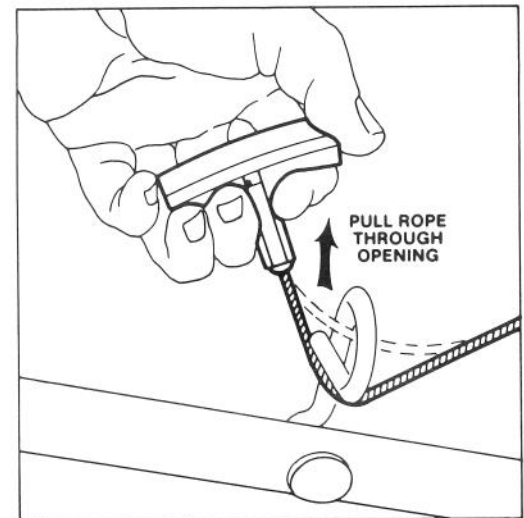
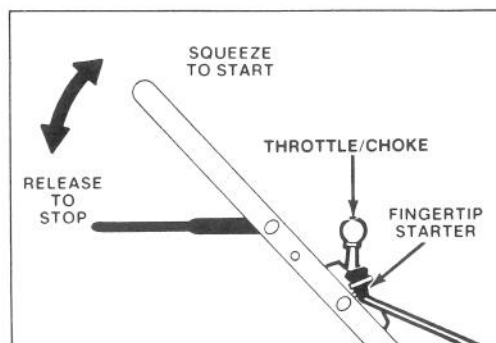

Figure 3
Figure 7
3. STARTER ROPE (Fig. 3) – Pull starter rope through opening in rope guide. By squeezing control bar (Fig. 7) against handle, blade brake will release and allow rope to be pulled easily up to rope guide.
1. **CONTROLS** (Fig. 7) — Throttle, blade control bar and fingertip starter are on upper handle.
2. **STARTING** (Fig. 7) — Push wire onto spark plug. Move throttle control to **CHOKE**. Cover hole in center of primer with thumb and push once. Hold control bar against handle. Pull fingertip starter and regulate throttle as required when engine starts.
3. **STOPPING** (Fig. 7) — Release control bar to stop engine and blade. Pull wire off spark plug if mower is unattended or not used.